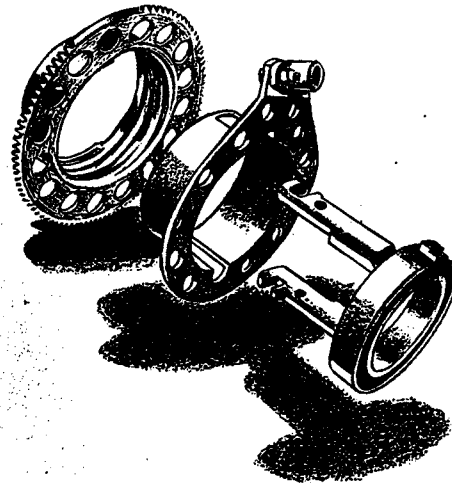

Figure 23
(1) Turn the pitch-change mechanism gear clockwise until the actuator is free, and remove actuator.
(2) Remove the machine screw from the pitch-change mechanism retainer ring, and remove the retainer ring.
(3) Slip the pitch-change mechanism gear off the pitch-change mechanism sleeve. (See figure 23.)